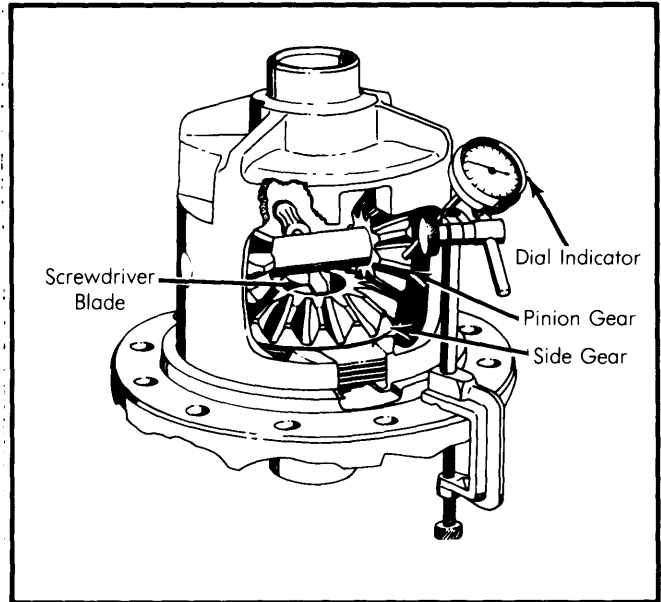

Fig. 9 Pinion Backlash Measurement
2) To check backlash, lubricate all parts and install clutch pack with shims onto side gear in original sequence. Install 1 side gear assembly, pinion shaft and pinion gears with thrust washers into case. Compress clutch pack by inserting a screwdriver and prying between pinion shaft and side gear. Measure backlash at pinion gear with a dial indicator. If backlash is not within .001 - .006", change side gear shim thickness and recheck backlash measurement. See Fig. 9. Repeat procedure for other side gear assembly.